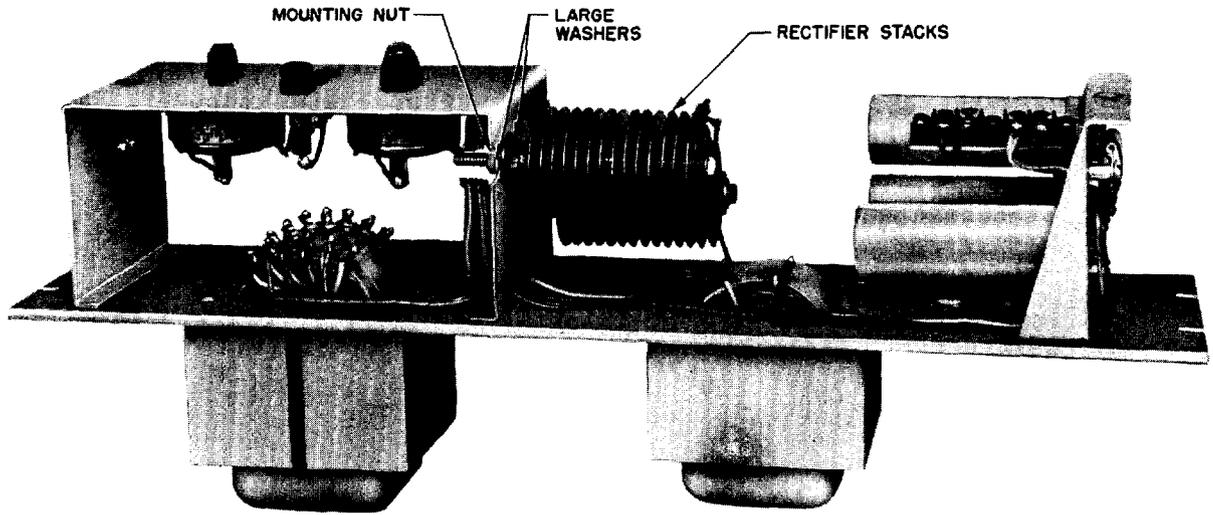

Fig. 2 - J86256A, L1 Rectifier
3.06 Defective rectifier stacks in *J86256A rectifiers* (see Fig. 2) shall be replaced with KS-15557, L1 or L2. If L1 rectifier stacks are not available, L2 may be substituted. However, rectifier stacks in any rectifier shall be from the same supplier and have the same list number. Re-use the large washers to mount the new rectifier stacks as shown in Fig. 2. When mounting rectifier stacks in the J86256A rectifier, position them so that there is at least 1/8 inch clearance between the two stacks and between the stacks and the adjacent components. All stacks that have been in service two or more years shall be replaced.